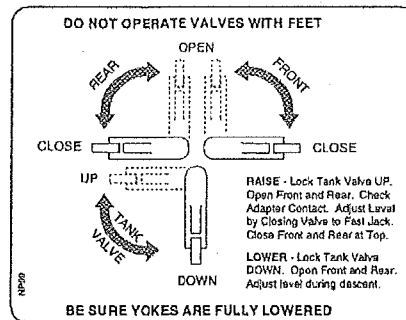

Fig. 24
A. Set the selector (UP/DOWN) valve handle to the "UP" position, Fig. 24.
- B. Set the selector (UP/DOWN) valve handle to the "DOWN" position, Fig. 24 or 25.